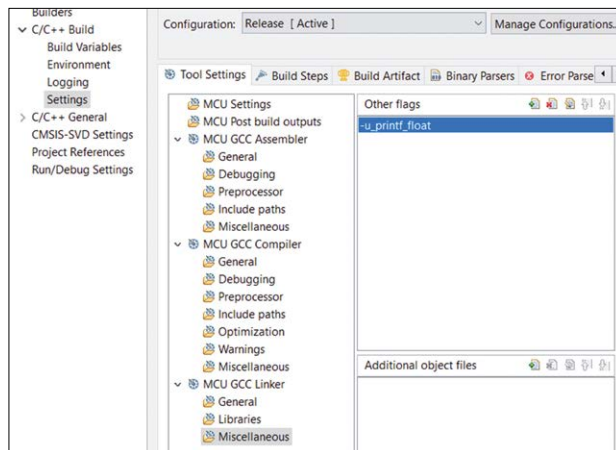

Figure 8.6: Add `-u_printf_float` to the linker.
- Click **Apply and Close** (Figure 8.6).